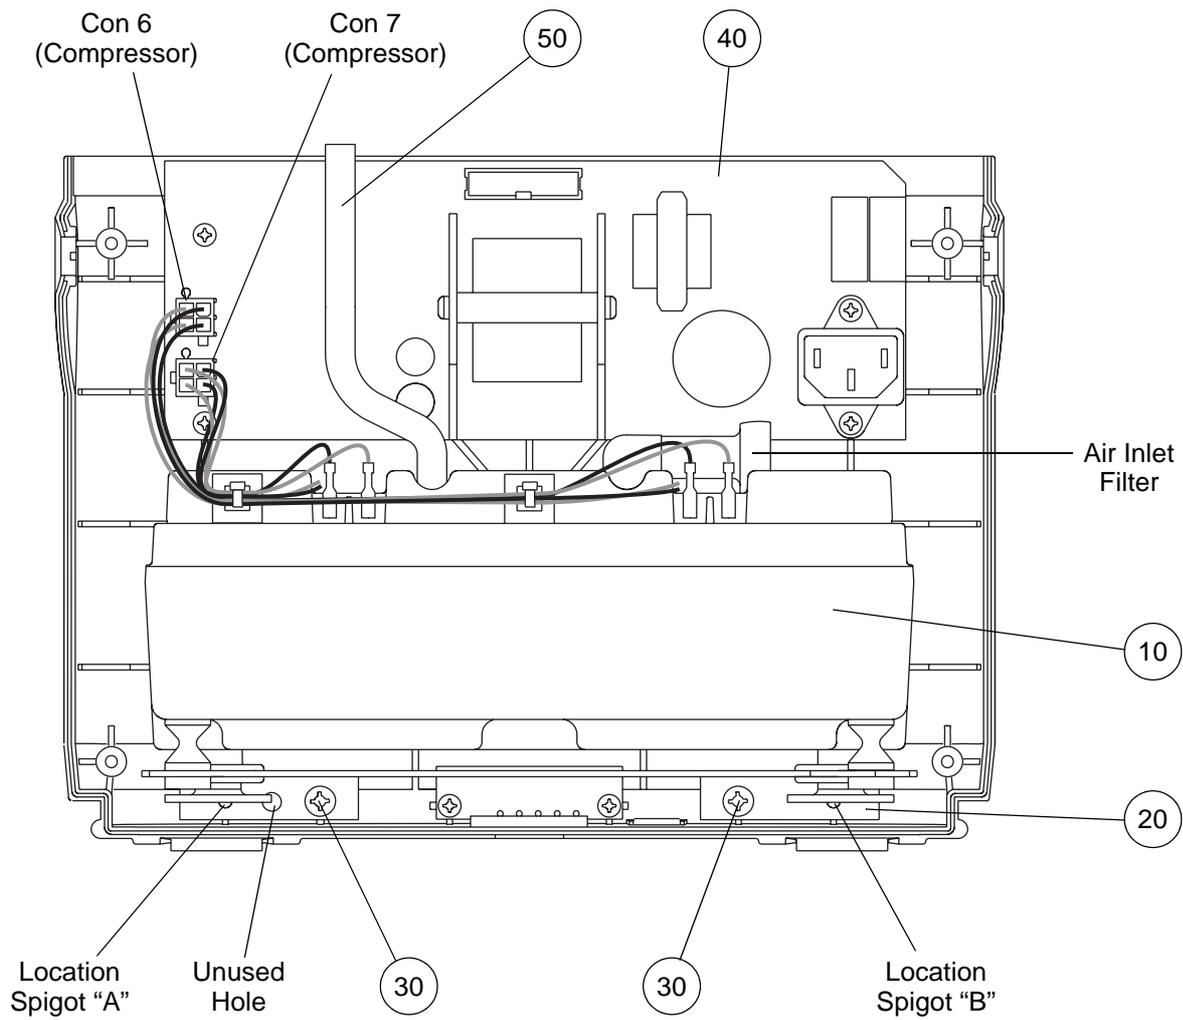

Figure 58 - Replacing the Compressor Assembly and Compressor Filter
- 36.3 Disconnect the large diameter tube (Fig 58, Item 50) from the compressor assembly.
- 36.4 Disconnect the two compressor cable connectors (Fig 58, PCB Con 6 and 7) from the power supply PCB assembly (Fig 58, Item 40).
- 36.5 Remove the two screws (Fig 58, Item 30), and lift the compressor assembly and mounting bracket (Fig 58, Items 10 and 20) out of the front case.
- 37.1 Before installing the compressor assembly and mounting bracket (Fig 58, Items 10 and 20), check the following parts are installed correctly on it (Refer to Figure 61):
- 37.1.2 The eight push-on cable connectors, from the power supply PCB assembly (Fig 58, PCB Con 6 and 7).
Note: Make sure the two locating holes at the outer ends of the mounting bracket are installed over the corresponding location spigots "A" and "B" in the front case (Refer to Figure 58).
- 37.3 Install the two screws (Fig 58, Item 30) through the mounting bracket (Fig 58, Item 20) and into the front case.
Note: One hole in the left side of the mounting bracket is not used (Refer to Figure 58).
- 37.4 Connect the large diameter tube (Fig 58, Item 50) onto the compressor assembly.
- 37.5 Connect the two compressor cable connectors (Fig 58, PCB Con 6 and 7) onto the power supply PCB assembly (Fig 58, Item 40).